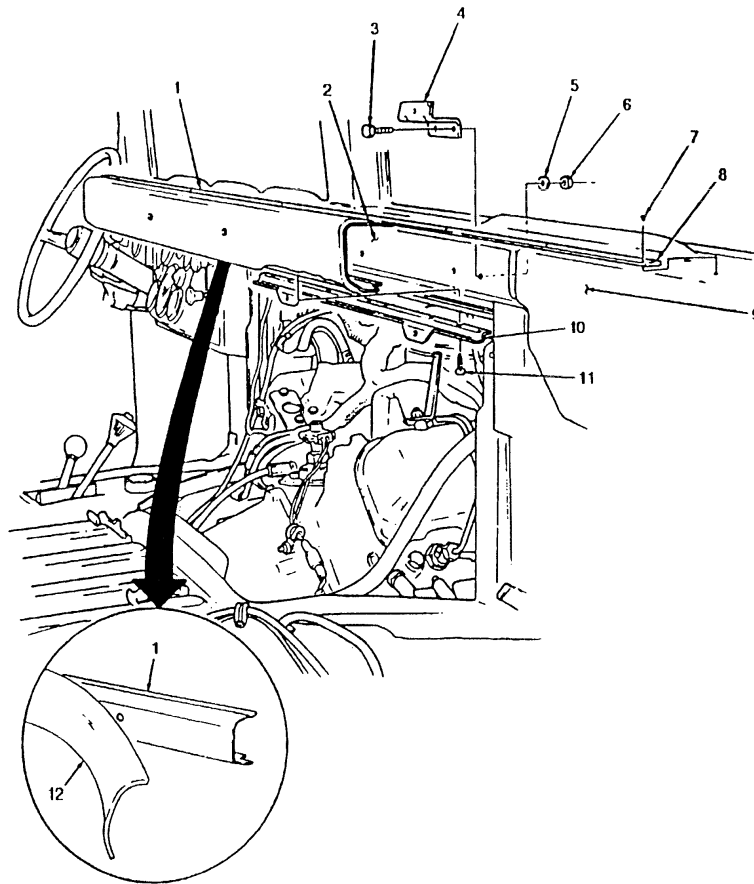
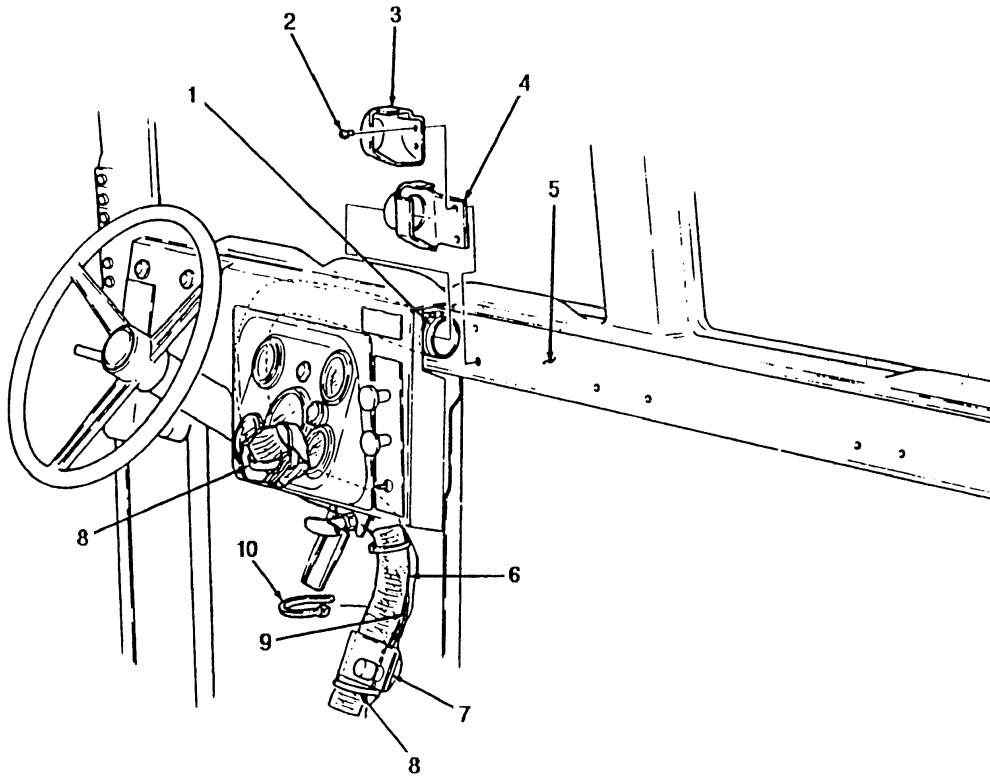

FIGURE 3-69
FIGURE 3-70
7. Remove seven rivets (7) from top retainer (8) and diverter box (9). (see figure 3-69)
8. Remove top retainer (8) and cover (12) from plenum panel (1).
9. Remove nine screws (1), engine shroud mount (10), and plenum panel (1) from "A" beam (2).
10. Remove four screws (3), washers (5), nuts (6), and two mounting brackets (4) from "A" beam (2).
11. Remove two rivets (2), heater duct Insert (3), and heater duct bracket (4) from "A" beam (5). (see figure 3-70)
12. Remove clamp (1) from heater duct bracket (4) and remove heater duct insert (3) and heater duct bracket (4) from heater duct (6).
13. Remove two clamps (8), three tie-down straps (10), and heater duct (6) from dimmer switch bracket (7) and dimmer switch wire harness (9).